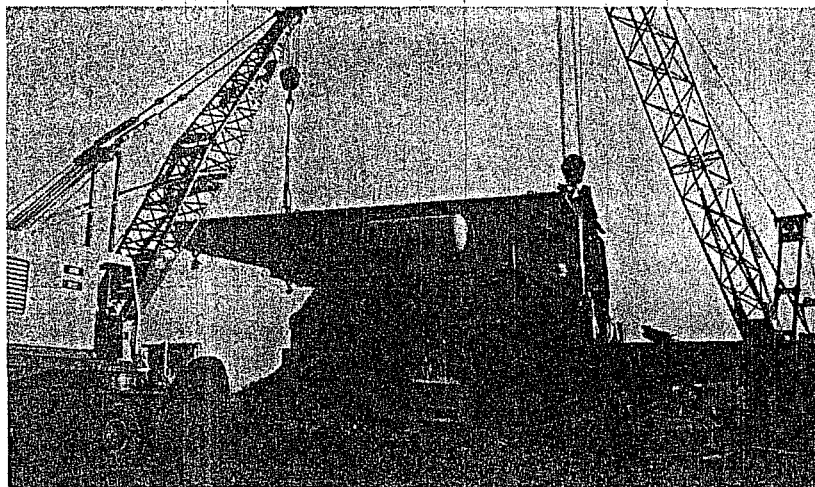

Figure 6.2-21
31. Install the lifting brackets that were supplied with the machine, on the trusses. Attach the crane to the right hand truss (Figure 6.2-21) and unbolt the truss from propel and swing modules and the truss front beam.